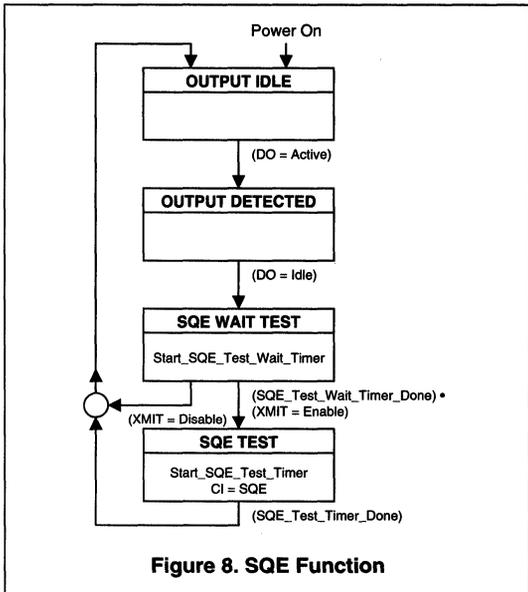

Figure 8. SQE Function
In the integrated PLS/MAU mode, the MB86961(A) supports the signal quality error (SQE) function as shown in Figure 8. After every successful transmission on the 10BASE-T network, the MB86961(A) transmits the SQE signal to the DTE for 10 ±5 bit times over the internal CI Circuit.